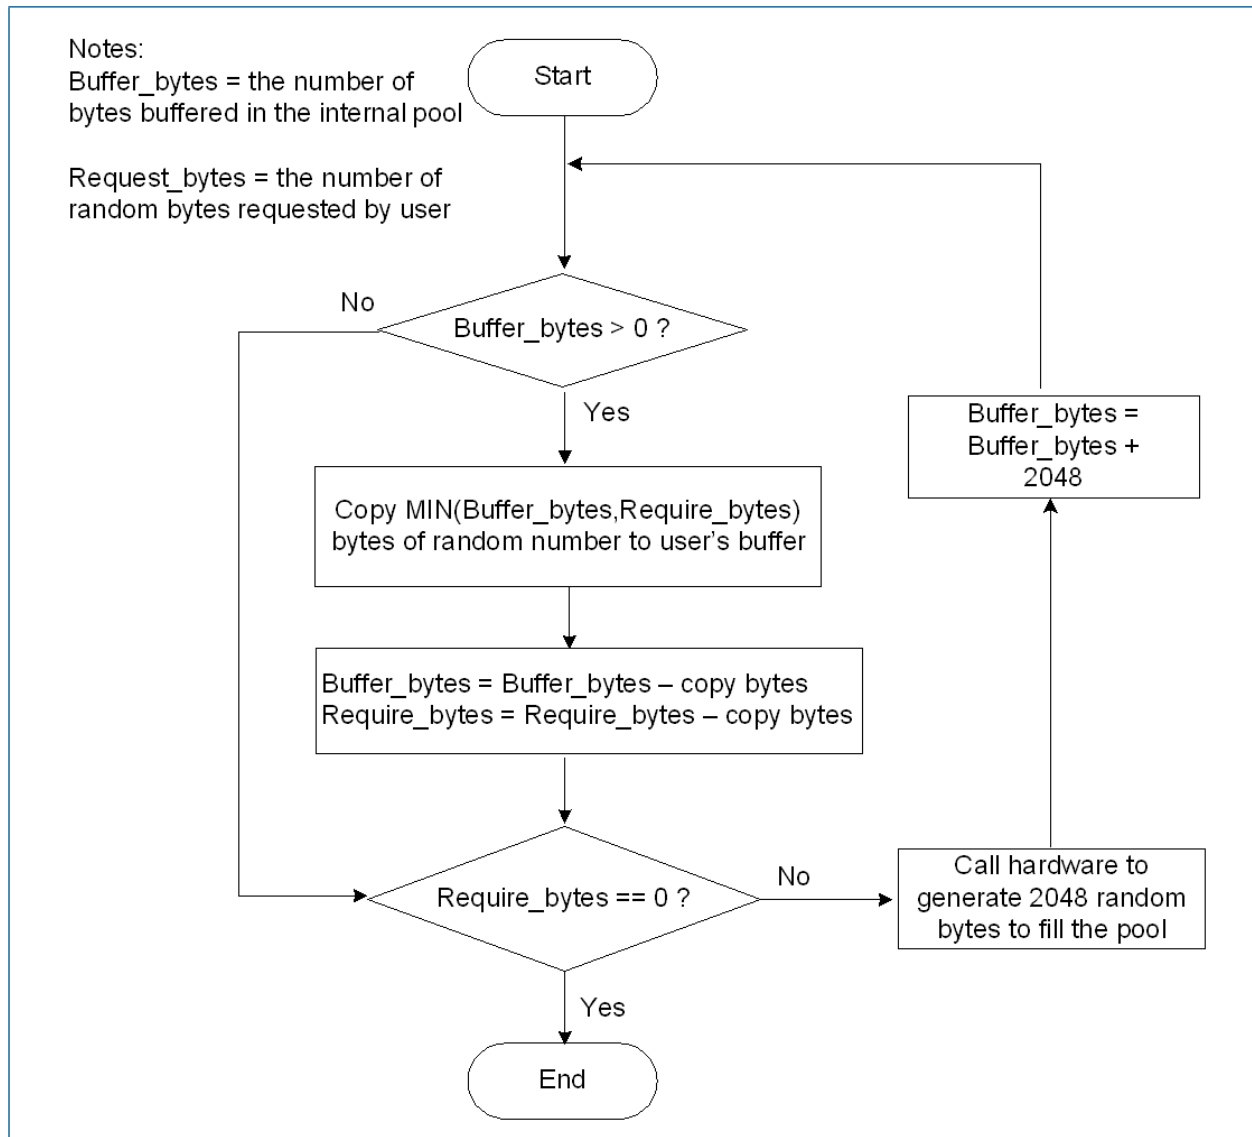

Figure A-2. Flow to Retrieve RNG Number from a 820x Device
Figure A-2 depicts the flow for how the Express DX SDK retrieves a RNG value from the 820x. The SDK maintains a pool of random numbers. If the number of requested bytes is larger than the amount of random numbers stored in the pool, then the SDK will retrieve another 2048 bytes to fill its internal pool buffer. This process will repeat until the requested amount of random numbers is fulfilled.
2. Every user request for random bytes from the RNG via the API function `DRE_rngRequestRaw()` will be serviced by an internal pool buffer whose size is 2048 bytes (`PoolSize`). If the number of available bytes in the pool (`PoolAvail`) is less than the number of random bytes requested, the DX SDK will copy the existing random bytes in the pool to the user buffer and then request another 2048 random bytes from the 820x device. This flow loops until the requested number of random bytes have been copied to the user buffer. This process is illustrated in Figure A-2.